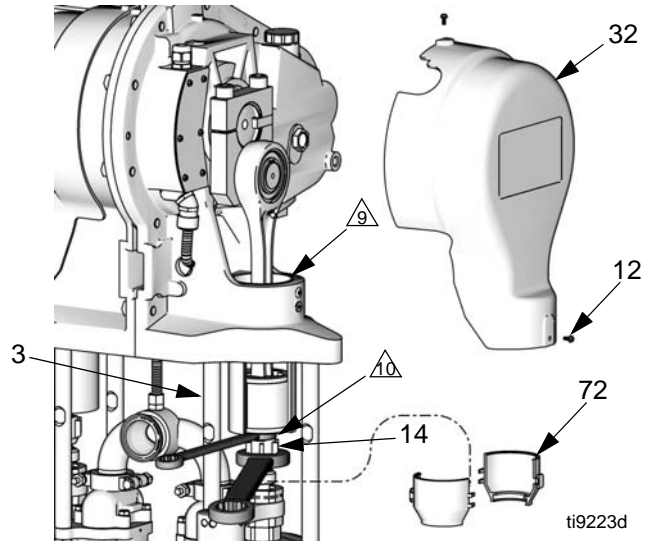

FIG. 5. Remove Coupling Nut
1. Remove four screws (12) and both covers (21, 32). FIG. 5 shows the cover (32) on the side opposite from the motor; the motor side cover is (21).